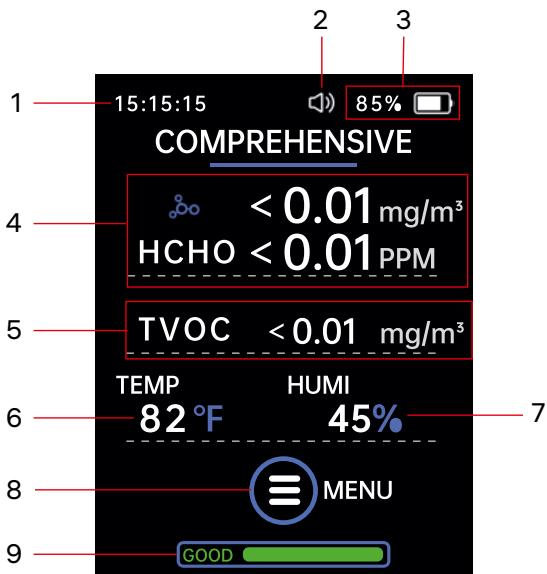
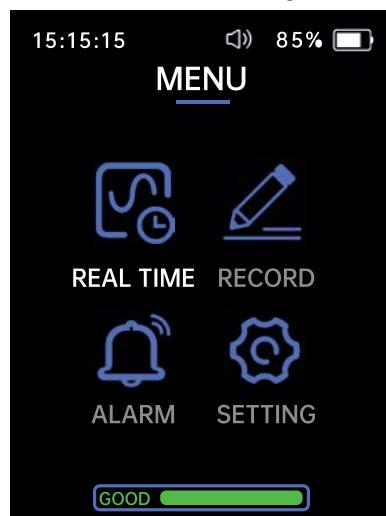

Figure 1
Figure 2
After turning the power on, the LCD screen (2) will display the time, volume, battery status, formaldehyde (HCHO) and total volatile organic compounds (TVOC) values, ambient temperature and humidity, and air quality indicator (Fig. 1). Press the menu button (6) to enter the main menu. Press and hold the Left button (4) for 3 seconds to switch between °C and °F. Press the Left (4) and Right (8) buttons to go to the menu functions (Fig. 2).